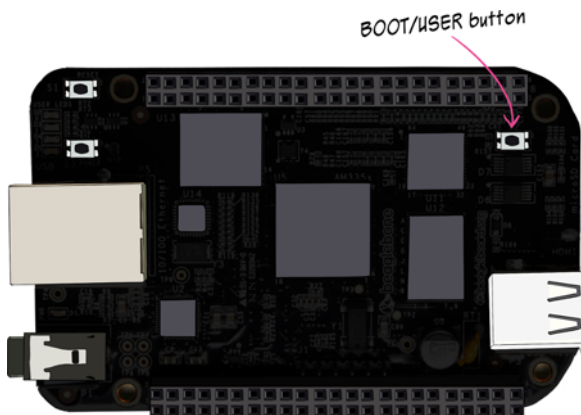

Figure 11.23 The `BOOT/USER` button on the BeagleBone Black
- 3 Plug the Arduino Uno—connected to the BMP180 as in figure 11.23—into one of the Pi’s four USB ports.
- 4 Now power down the BeagleBone Black. With the SD card still inserted, hold down the `BOOT/USER` button (figure 11.23) and reconnect the power. Keep holding the button down for a few more seconds until all of the onboard LEDs light up solid for a moment. Then you can let the button go.